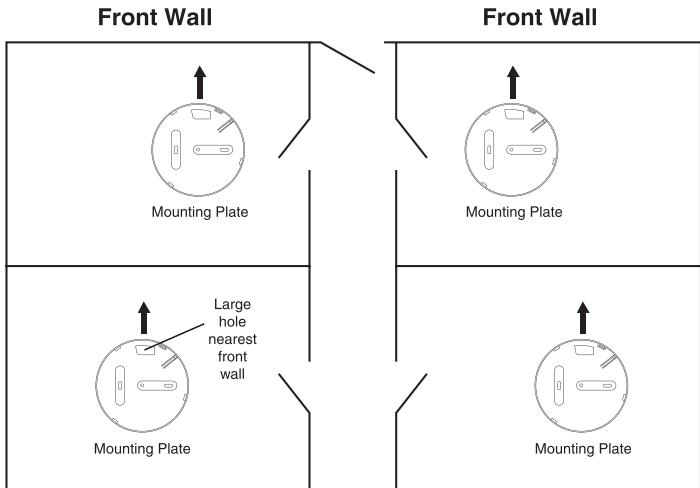

Fig.8
5. If using an RF interconnection, ensure all Alarms are facing the same direction. This means picking a part of the building, say the front of the building and then installing all mounting plates in the same orientation with respect to this (see Figure 8).